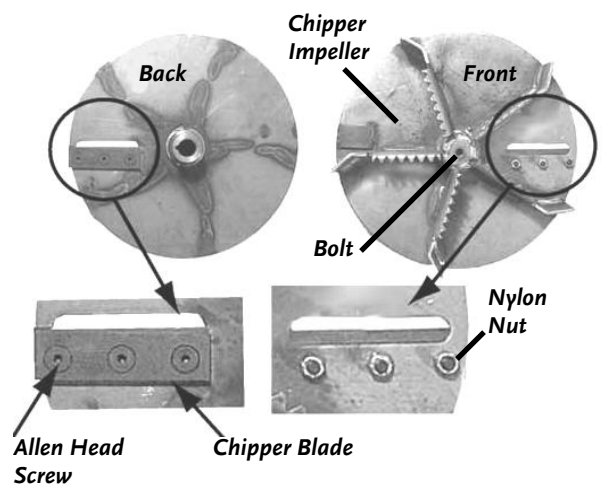

Figure 36
4. Using the 9/16" wrench or socket, remove the Chipper Impeller retaining Bolt (**Figure 36**) from the engine shaft and slide the impeller off of the shaft. Be sure to save the key in the slotted shaft.
5. The Chipper Blade is attached to the impeller with three (3) Allen head screws and three (3) nylon lock nuts (**Figure 36**). Using the 3/16" Allen wrench and 1/2" wrench, remove the old Chipper Blade by removing the three (3) screws and nuts.